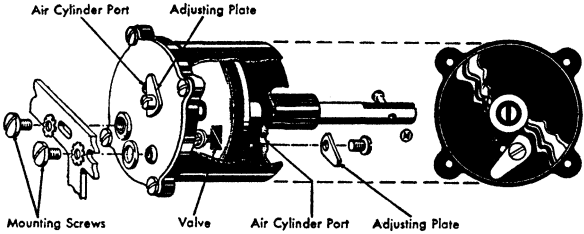

Figure 51. Air Cylinder Adjustments
19. AIR CYLINDER. Position this front or rear on the side frame, to permit the plunger to move freely in the cylinder without binding (Figure 51).
20. AIR CYLINDER PORTS AND CLUTCH COMPRESSION SPRING ADJUSTMENTS should be considered together. The air cylinder must reduce the impact of the carriage return as much as necessary without noticeably reducing speed. The intake port, on the air cylinder shell, should be adjusted approximately half-way open (Figure 51).
Adjust the exhaust port so that the shock of carriage return is reduced, without noticeably slowing the carriage during the last half-inch of travel (Figure 51). Test this action on short, medium and full-length returns for positive, quiet operation. If an operator finds excessive resistance in pushing the carriage back to the margin, recheck the air cylinder ports. It may be advantageous to open the exhaust port slightly.